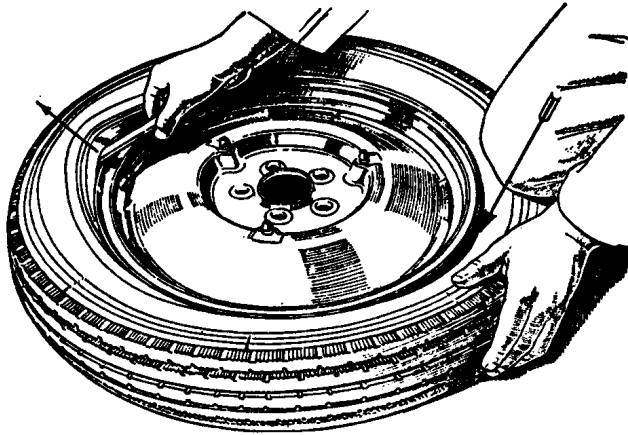

Fig. O.6
the lever towards the tyre. This will push the bead away from the rim edge; (2) Insert a second lever in the space provided, but with the curved end outwards, and pull this lever away from the tyre to push the bead inwards; (3) Repeat this process right round the tyre until the bead is free. Two or three circuits round the tyre may be necessary to free the bead completely. Push both edges into the base of the rim at a point diametrically opposite the valve, then lever the cover edge near the valve over the rim of the wheel (see Fig. O.6), using two levers placed about 6 in. (15 cm.) apart. Remove the tube carefully—do not pull on the valve. Stand the tyre and wheel upright, keeping the bead on the base of the rim. Lever the bead over the rim flange, and at the same time push the wheel away from the cover with the other hand.